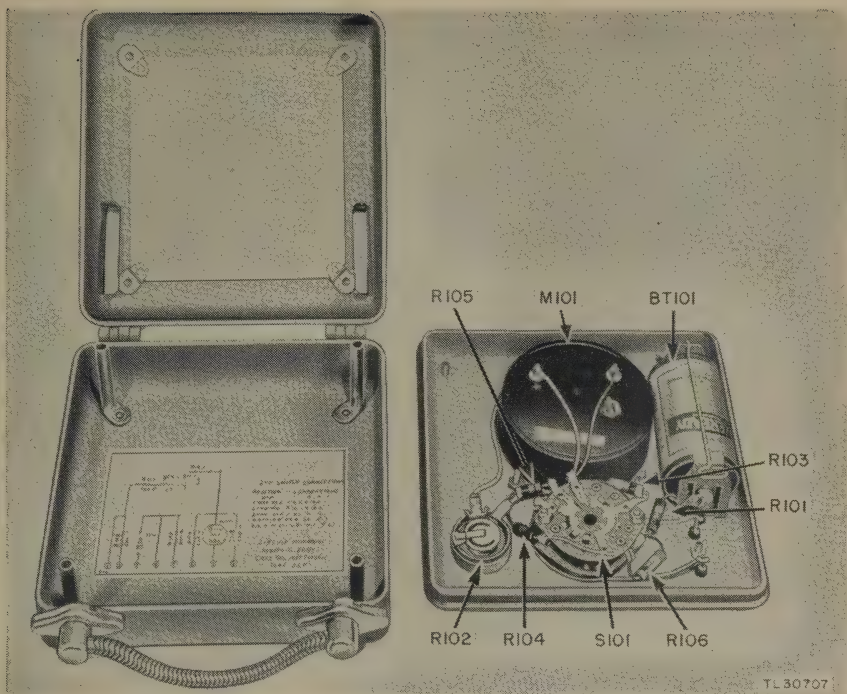

Figure 7. Crystal Rectifier Test Set TS-268/U, under panel view.
a. Crystal Rectifier Test Set TS-268/U. Loosen the mounting screws in the four corners of the instrument panel, and lift the panel from the case. All circuit parts are mounted on the rear of the panel. The battery-mounting receptacle is located on one side of the meter (fig. 7). Release the holding clip on the battery receptacle, and insert the battery in the receptacle with the positive pole facing toward the lower section of the panel. The positive polarity usually will be marked on the battery receptacle. Fasten the holding clip firmly in place and return the instrument panel to the case.